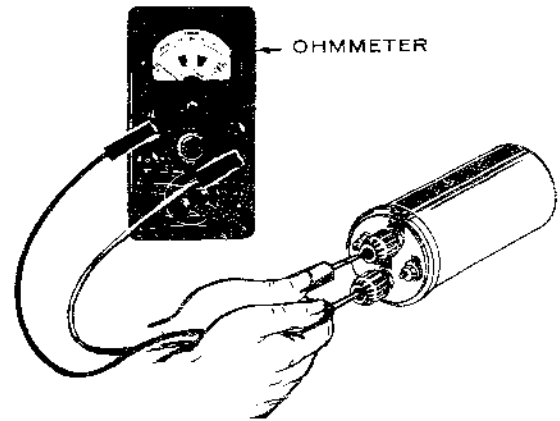

FIGURE 8. COIL TEST
2. Place a black lead on ground (-) terminal of coil and red lead to positive (+) terminal. Primary resistance should read 4.30 (± 10%) ohms @ 70 F (21 C). See Figure 8.